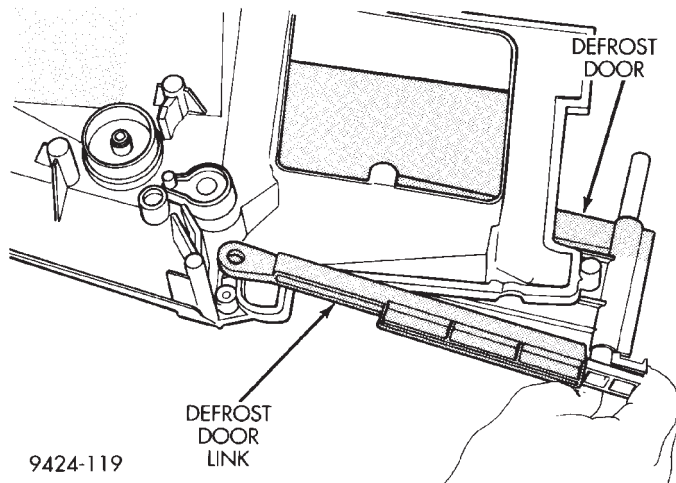

Fig. 81 Defrost Door And Link
(25) Remove link and defrost door from housing (Fig. 81).